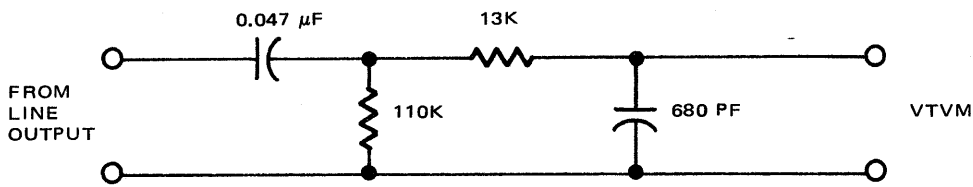
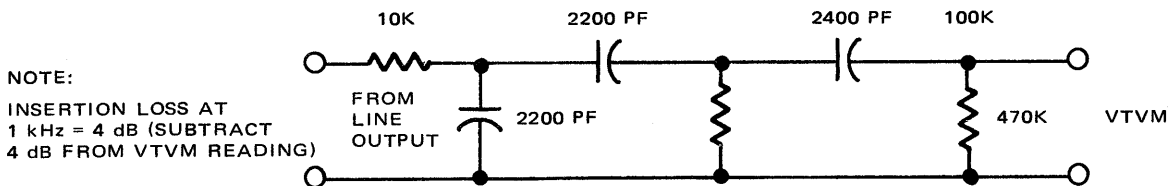

Figure 5-2. 30 Hz to 18 kHz Noise Filter
Figure 5-3. ASA "A" Weighted Filter
The equipment listed in Table 5-1, items 1 through 8 (or equivalent) is required for completion of the performance tests. Included in the test equipment listed in Table 5-1 are: Alignment tapes (Table 5-2), flutter test tapes (Table 5-5), and filters used during noise measurement tests (Figures 5-2 and 5-3).
The overall signal-to-noise test requires either a 30-Hz to 18-kHz noise filter (Figure 5-2) or an ASA "A" weighted filter (Figure 5-3) to attenuate noise outside of the audible-frequency band. However, since each of these filters attenuates frequencies above its bandpass at 6 dB per octave, neither filter completely removes inaudible high-frequency noise. Therefore, the overall signal-to-noise test should not be performed while simultaneously recording and reproducing a test signal because high-frequency bias-signal pickup may affect the test results.